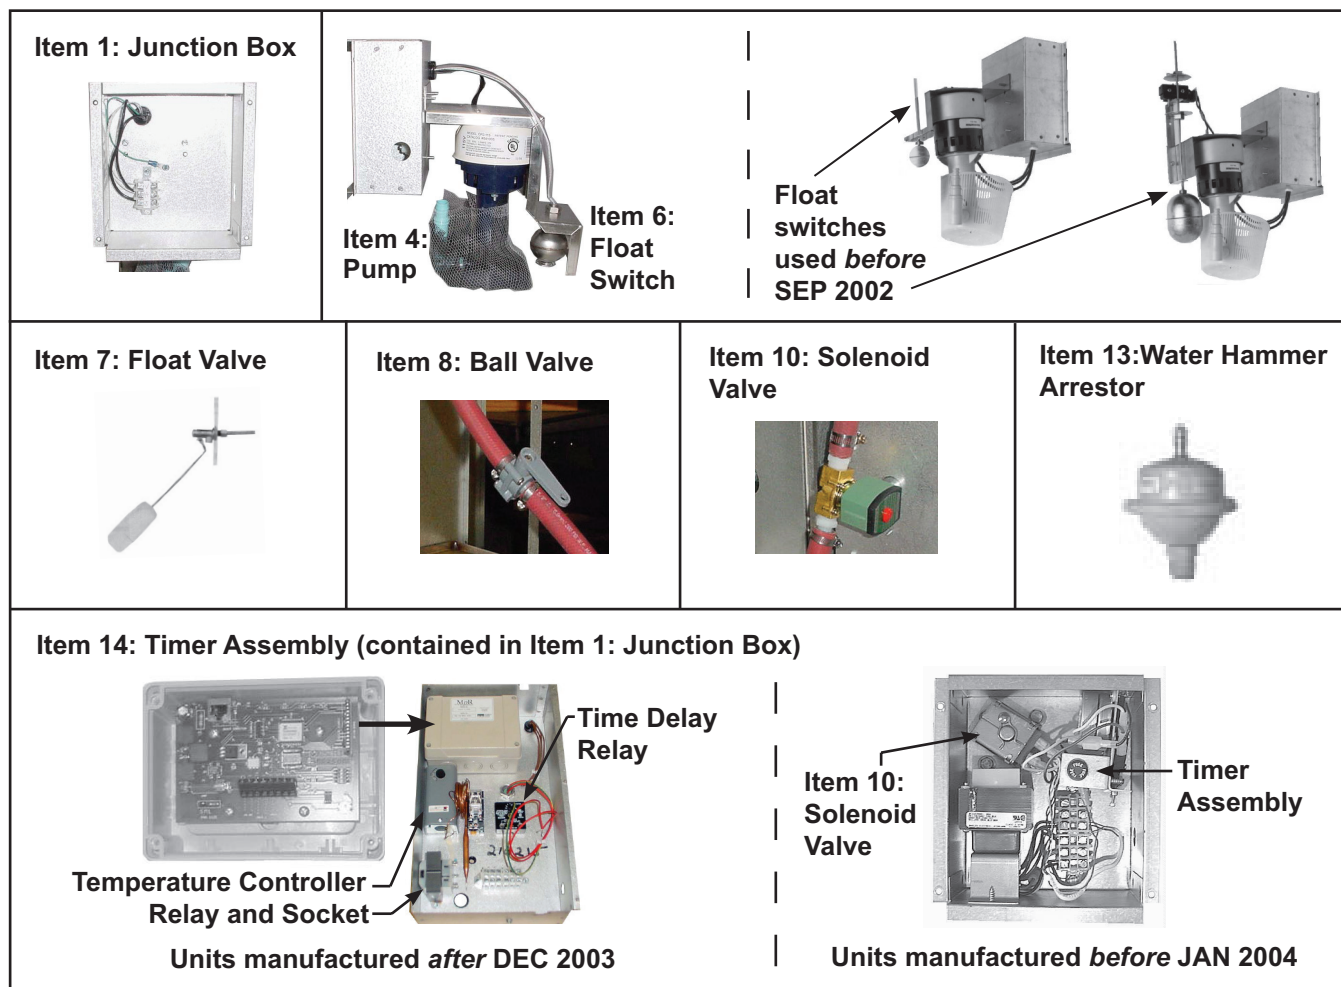

Figure 3. Control Components (Refer to Table 2)
NOTE: Depending on when the evaporative cooling module was manufactured, the junction box/pump/float switch assembly will resemble one of the configurations shown in Figure 3. The float switch used on units manufactured *before* SEP 2002 is replaced using a field-replacement kit (PN 213779).
**Also shown in Figure 3.